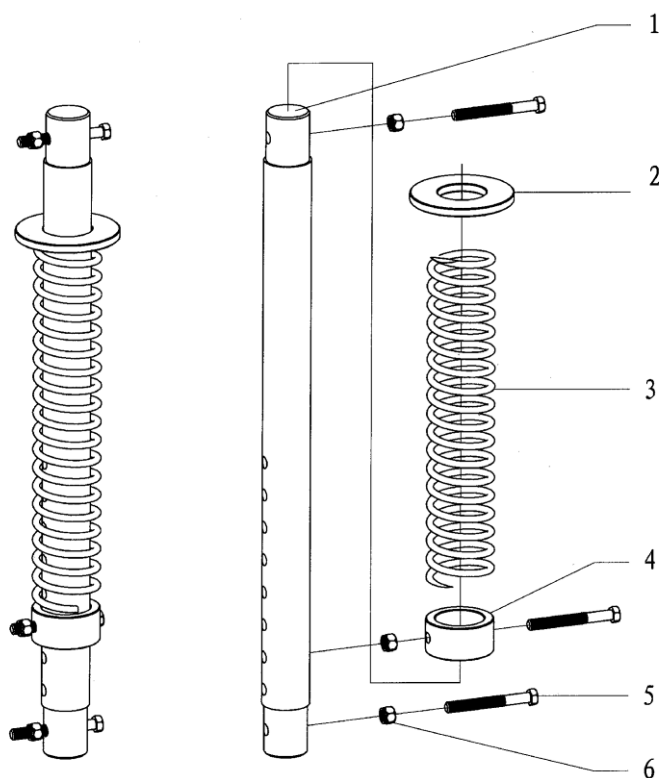

Fig. 30
7.4 Front guide pole Assembly (Fig.30, Table.25)